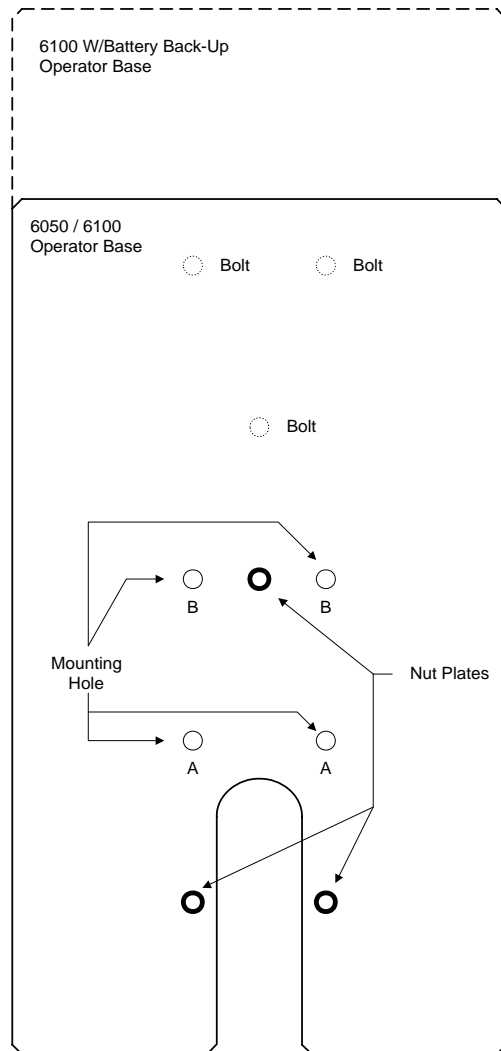

Figure 11
2. Bolt the operator to the mounting plate using two (2) 3/8-16 x 1 bolts, two (2) 3/8 washers, and two (2) 3/8-16 nuts in the holes marked A (Figure 11).
3. Use the remaining hardware, two (2) 3/8-16 x 1 1/4 bolts, two (2) 3/8 washers, and two (2) 3/8-16 nuts in the holes marked B (Figure 11).
4. Use the three (3) 5/16 lock nuts to secure the bolts from the bottom of the operator base to the mount plate base. These bolts are labeled "Bolt" in Figure 11.